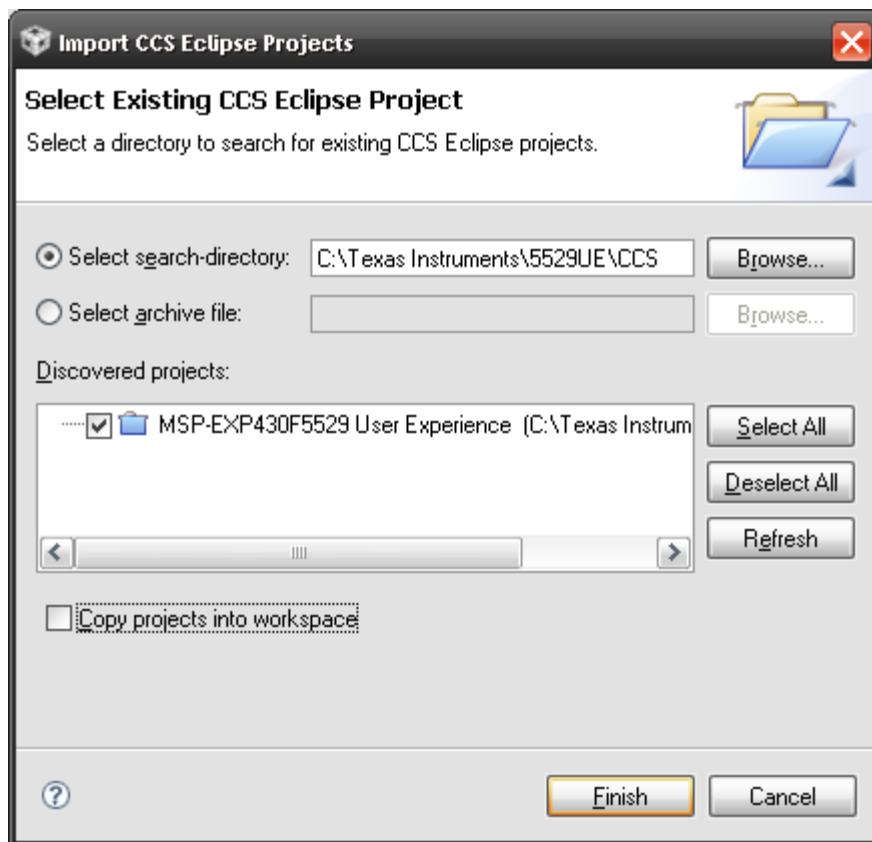

Figure 4. Opening Existing Project
- Browse to the extracted project directory. The project should now show up in the Projects list (see Figure 4).